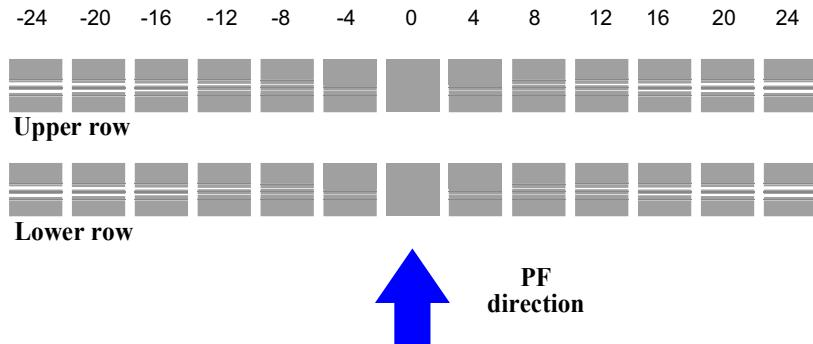

Figure 4-75. Adjustment pattern (rough adjustment)
4. Refer to Figure 4-75, and select the pattern that the white gap between each upper row and lower row is the narrowest.